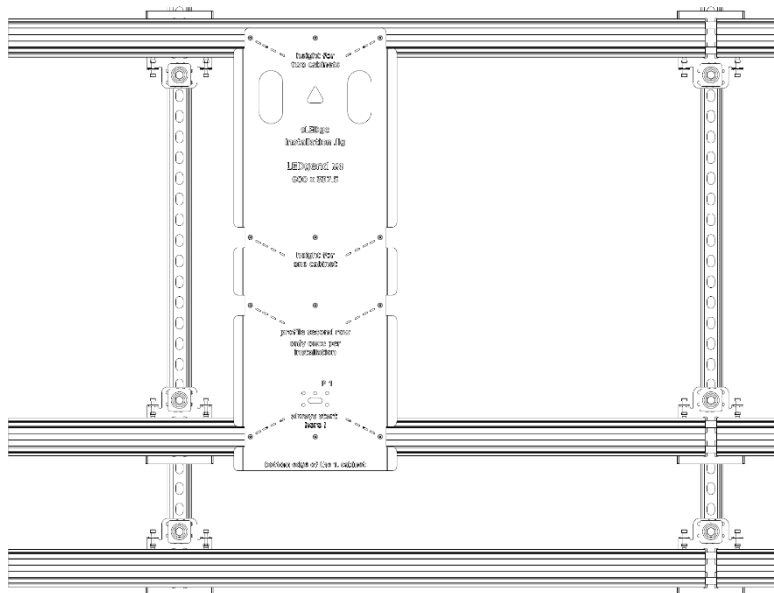

Figure 14 Front view jig with two cabinet distance
- If the next row has a gap of two cabinets, use the lowest guiding pin for the current top row and the fourth guiding pin for the next row (see Figure 14)